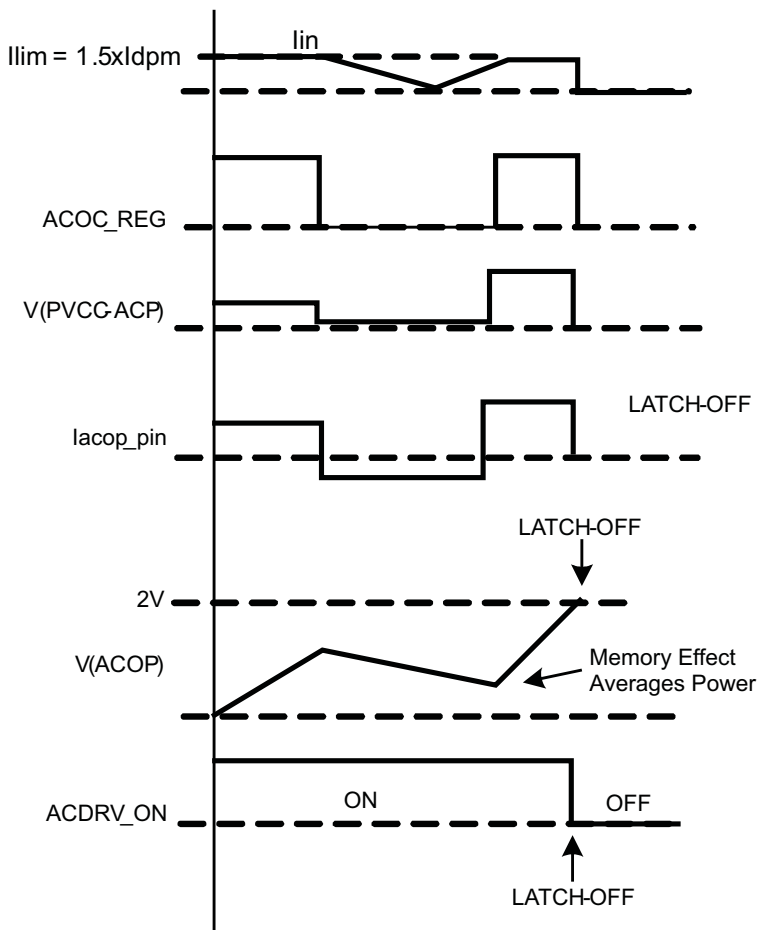

Figure 35. ACOC Protection and ACOP Latch Off with Memory Effect Example
- c. Memory effect (capacitor charging and discharging) allows protection from repetitive ACOC conditions, depending on duration and frequency. (Figure 35)